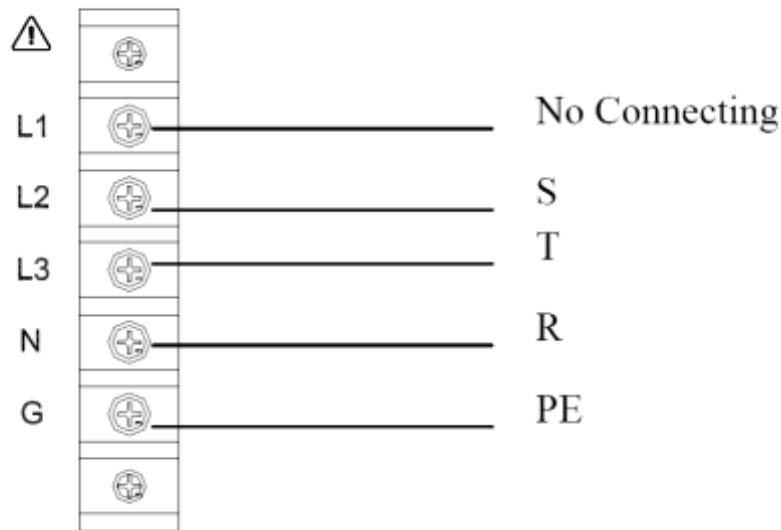
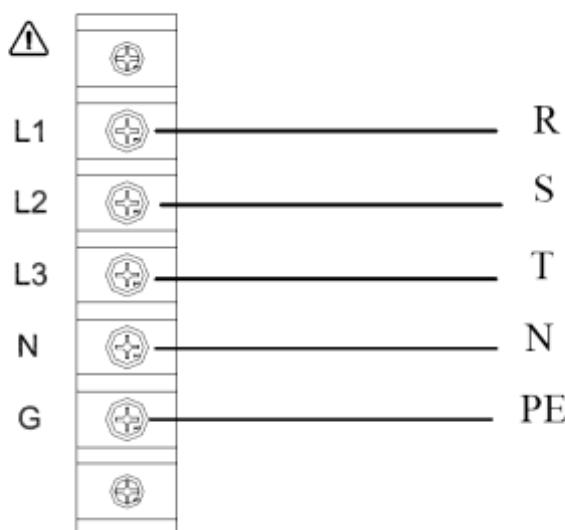

Figure 2-3 220V_{LL}, 3-phase 4-wireΔ Input Connection
Figure 2-4 380V_{LL}, 3-phase 5-wire Y input connection
- (5) To assemble 62050P ➔ see Figure 2-3 & Figure 2-4